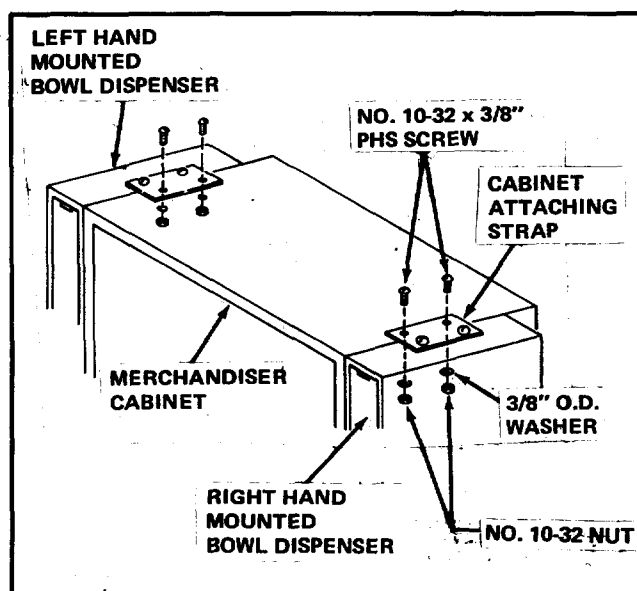

FIGURE IV-4
3. Insert the two remaining No.10-32 x 3/8" PHS Screws through the two unused holes in the Cabinet Attaching Strap. See Figure IV-4.